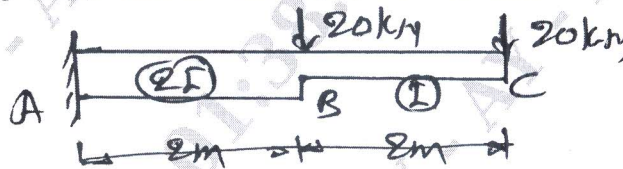

Fig Q5(b)
- b. Compute the deflection and rotation (slope) at the free end C of cantilever beam by unit load method. Shown in Fig Q5(b). Take $E = 200 \text{ GPa}$, $I = 8 \times 10^7 \text{ mm}^4$.